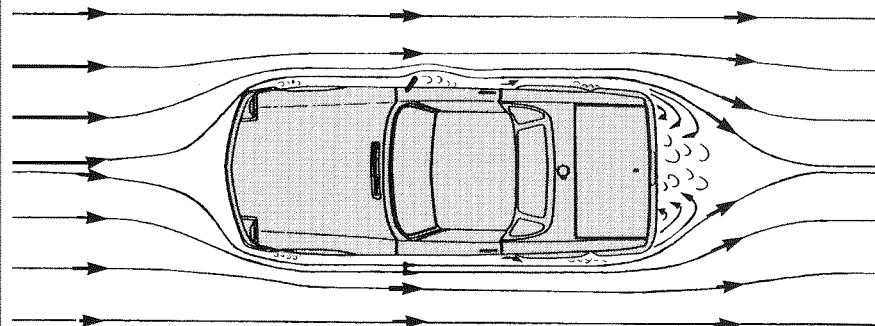

Fig. 2 Typical airflow over the Spitfire, showing the void of air and turbulence at the rear which causes drag.
3. **DRAG**. To understand drag we need to look at how the air passes around a vehicle. **Fig. 2.** Notice that
In reality a vehicle comprises many complex angles and protrusions which prevent the air from flowing smoothly over the car, eg windscreen wipers, wing mirrors etc. The result is that the air 'breaks away' from the surface of the vehicle and creates turbulence. **Fig. 2.** Air in these areas is